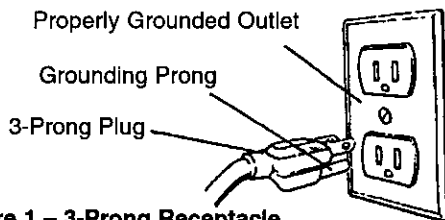

Figure 1 – 3-Prong Receptacle
- This tool is equipped with an approved 3-conductor cord rated up to 240V and a 3-prong grounding type plug rated at 115V (See Figure 1) for your protection against shock hazards.
- Grounding plug should be plugged directly into a properly installed and grounded 3-prong grounding-type receptacle, as shown (See Figure 1).